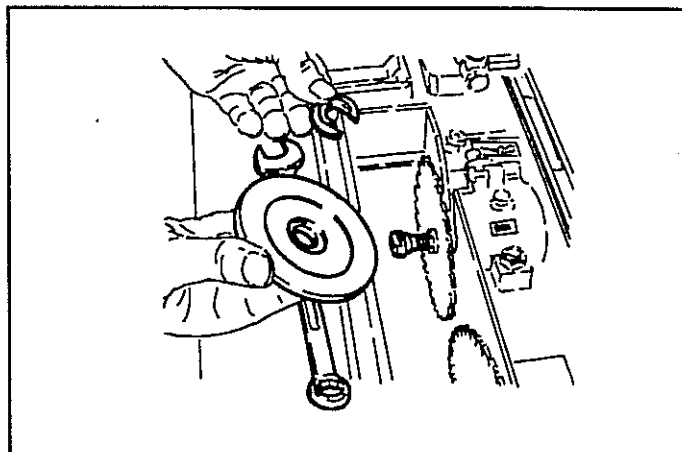

Fig.3.10
- b- repeat the operations already illustrated locking the scorer spindle to mount it (fig.3.10)